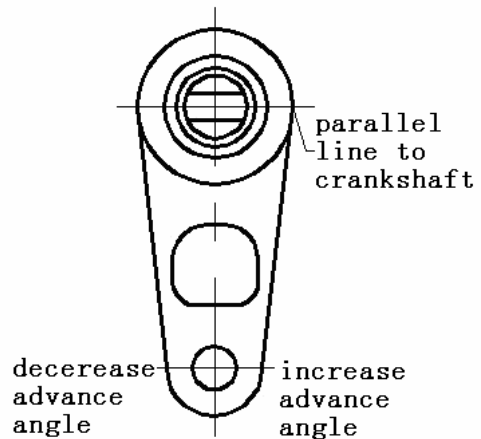

Fig. 4-6 Adjustment of ignition advance angle
- D. If ignition timing is not within $6\pm 2^{\circ}\text{C}$ loosen the locknuts for distributor housing and adjust it by swinging the housing .swinging anticlockwise increases ignition advance angle, while swinging clockwise reduces it(fig.4-6)